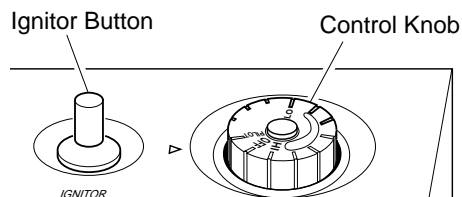

Figure 22 - Control Knob In The OFF Position
4. Wait five (5) minutes to clear out any gas. Then smell for gas, including near the floor. If you smell gas, **STOP!** Follow "B" in the safety information. If you don't smell gas, go to the next step.
5. Turn control knob counterclockwise  to the PILOT position. Press in control knob for five (5) seconds (see Figure 22).